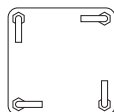

Figure 2
2. Assemble anchor system as follows: Thread nut (#35) to bottom of threads on anchor bolt (#39) insert threads of anchor bolt (#39) through hole on anchor plate (#38) and secure with nut (#35). Repeat this step for the remaining anchor bolts. See Figure 2. Note: